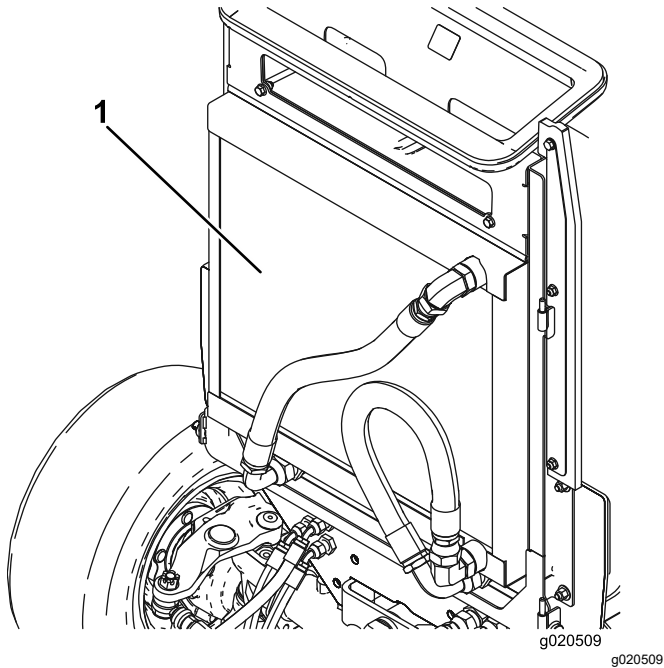

Figure 79
4. Clean both sides of the oil cooler/radiator area (Figure 79) thoroughly with compressed air. Start from the front and blow the debris out toward the back. Then clean from the back side and blow toward the front. Repeat the procedure several times until all chaff and debris is removed.